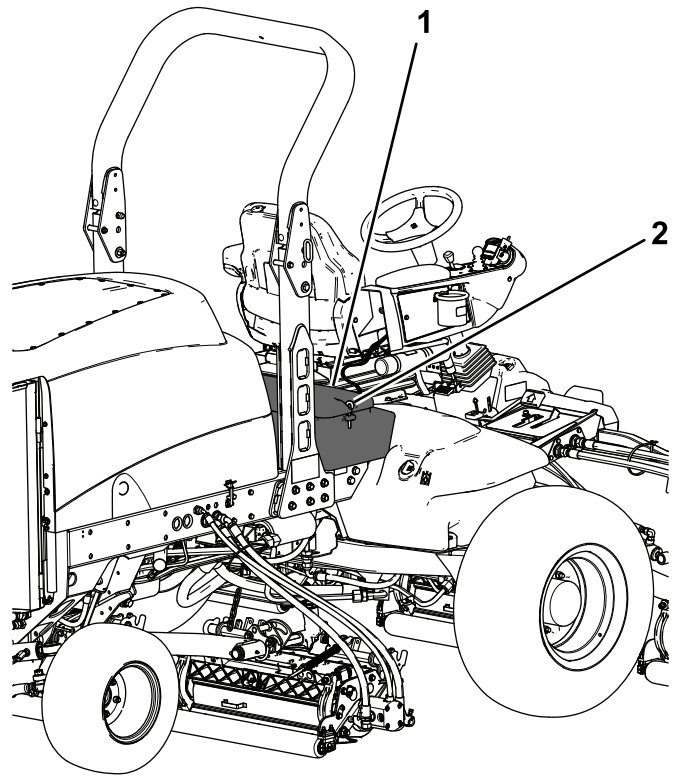

Figure 96
2. Unlatch and raise the operator's console panel (Figure 96).